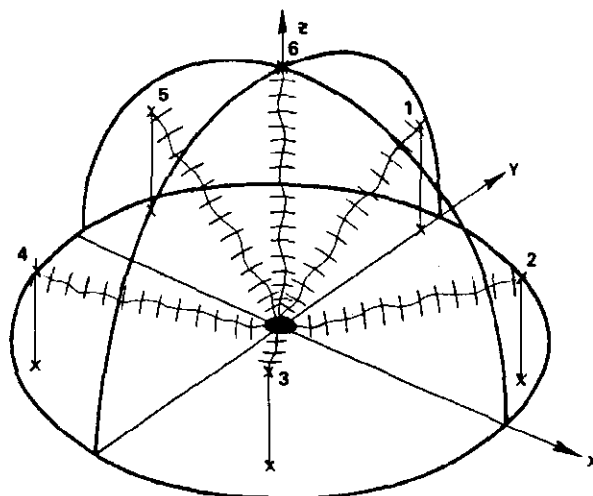

Figure 14. Microphone Positions for Measuring Pump Noise
The rating is usually expressed in dB(A) at a distance three feet in a free field above a reflecting plane (semi anechoic). This is a computed figure derived from a mathematical model. This model assumes that all the sound power from a pump is radiated from a single point located in the center of a hypothetical test hemisphere (Figure 14). The standard allows for masking all parts of the circuit that might contribute to noise. This includes wrapping hydraulic lines and enclosing any load valves. **All radiated noise must be attributable to the pump, with no corrections for background.**